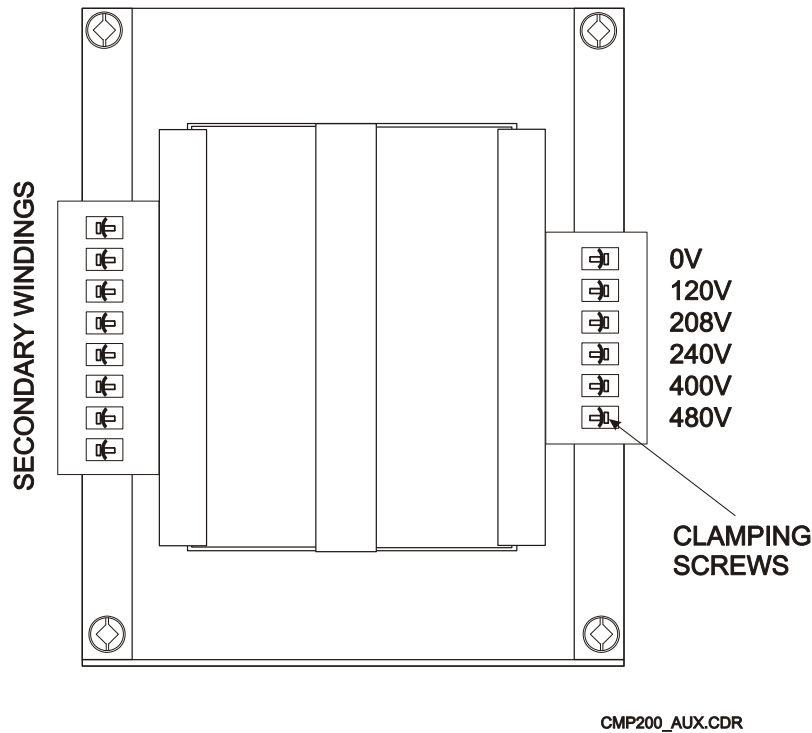

Figure 2-7: Auxiliary transformer, terminal view
3. Note the line-voltage tap position on this transformer as determined by the location of the wire on the 208V or the 240V tap on the transformer primary. This is normally set to the 240V tap. Refer to figure 2-7; this shows the front view of the transformer.
3. Note the line-voltage tap position on this transformer as determined by the location of the wire on the 400V or the 480V tap on the transformer primary. This is set to the 400 or 480V tap to match the line voltage specified at the time of the order. Refer to figure 2-7; this shows the front view of the transformer.